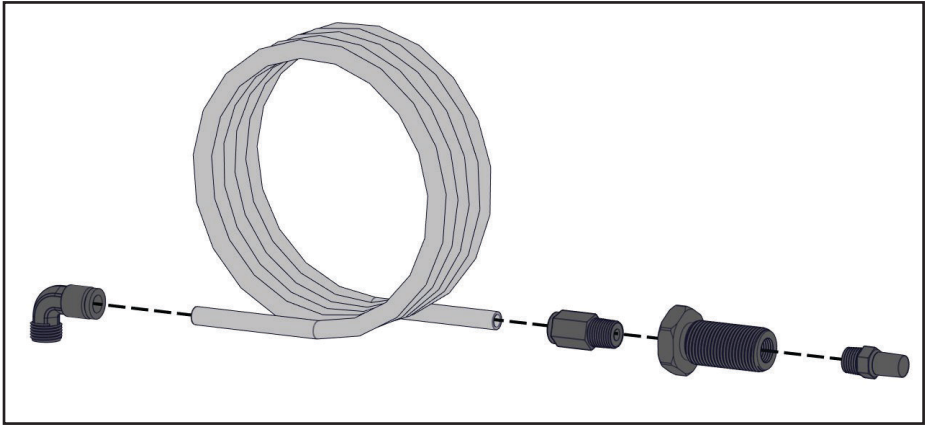

Figure 37 — Tubing Installation Remote Blowdown Muffler assembly
- Install the tube into the push-to-connect bulkhead fitting (Figure 37)